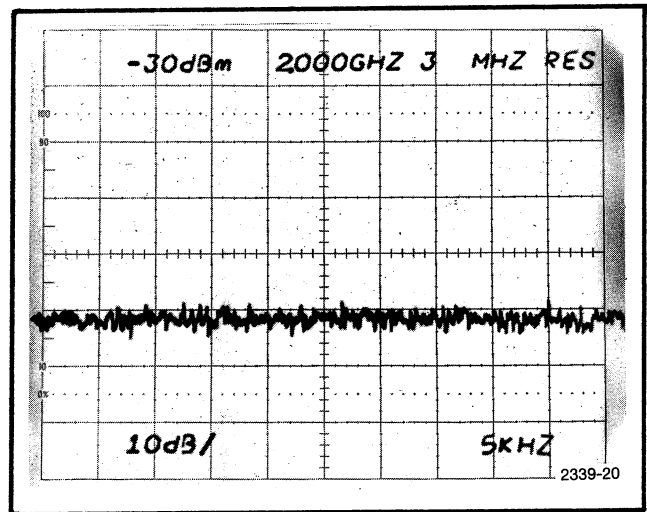

Fig. 3-5. Measuring average noise level as an indication of sensitivity.
c. Check—noise level below the -30 dBm reference level (see Fig. 3-5). Must not exceed -79 dBm (see Table 3-1).